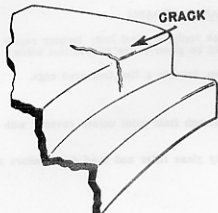

FIG. 6
1. Cut away clear plastic with rotary file until areas with fiberglass are reached, (See Figures 6, 7, 8, and 9)